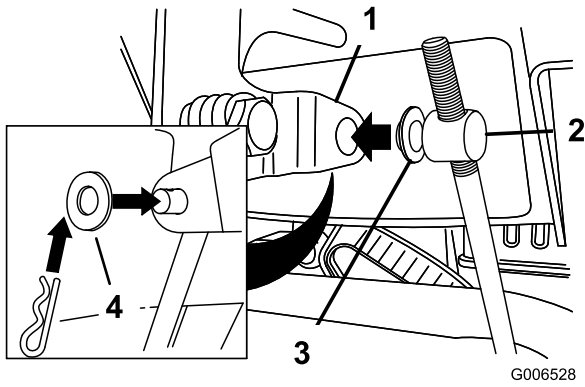

Figure 12
3. Remove the hairpin cotter and the outer washer from the trunnion on the upper end of the speed control rod (Figure 12).
Note: To make installation easier, leave the flat washer on the trunnion (Figure 12).
- 6. Lift up on the speed control rod and insert the trunnion into the hole in the speed selector lever (Figure 12).